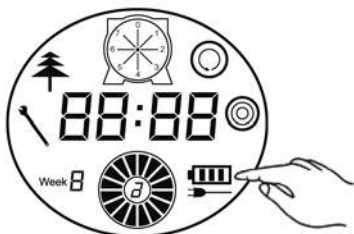

Figure 5
- 6) After the battery is used up, the first grid of the charging icon will flicker, when the second and then the third grid will flicker showing it is charging, stop flickering after completing the charging (Refer to Figure 4 and Figure 5).